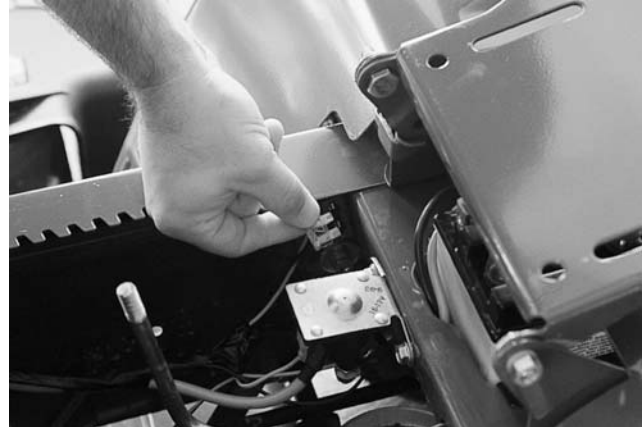

Figure 3-20.
- a. Check for a tripped circuit breaker or blown fuse. Circuit breakers seldom open or fuses blow without a reason. The problem must be corrected. See Figure 3-20.